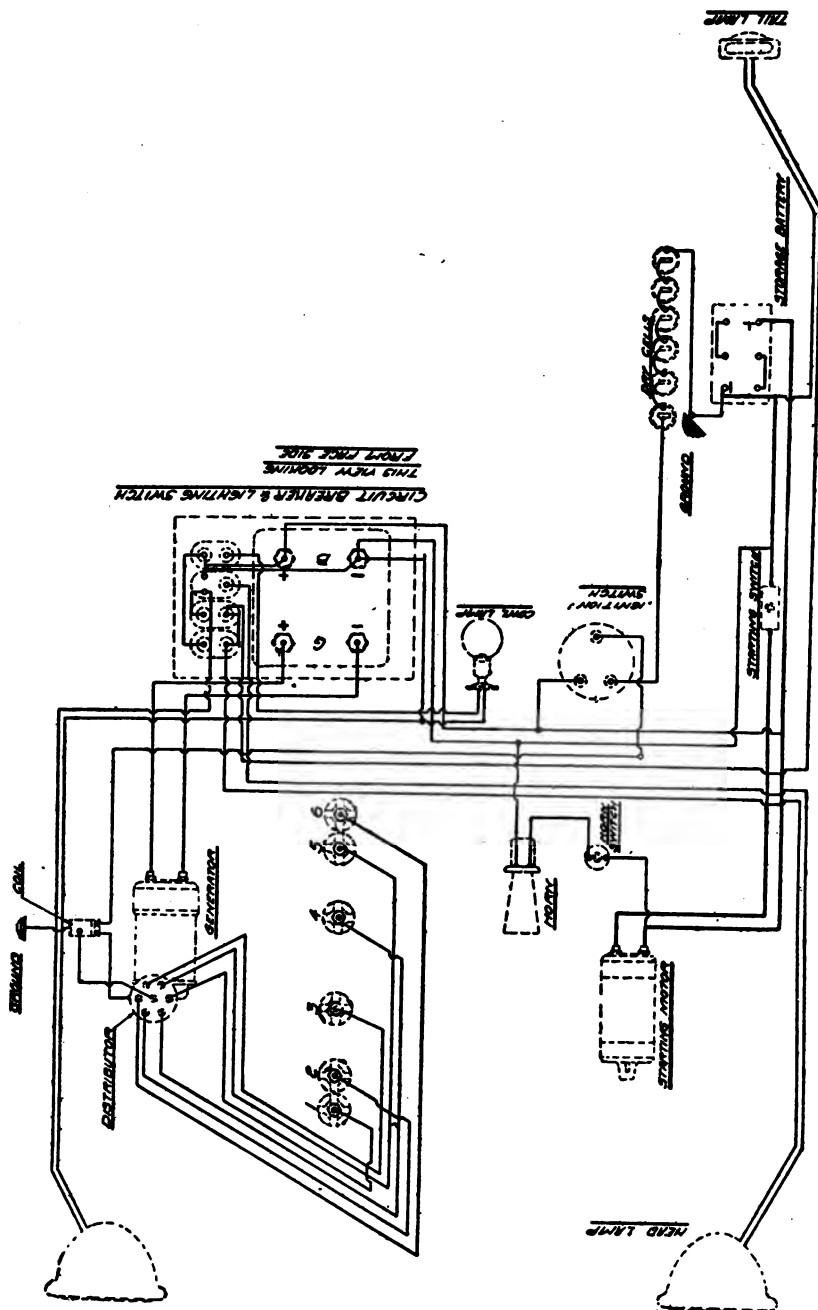
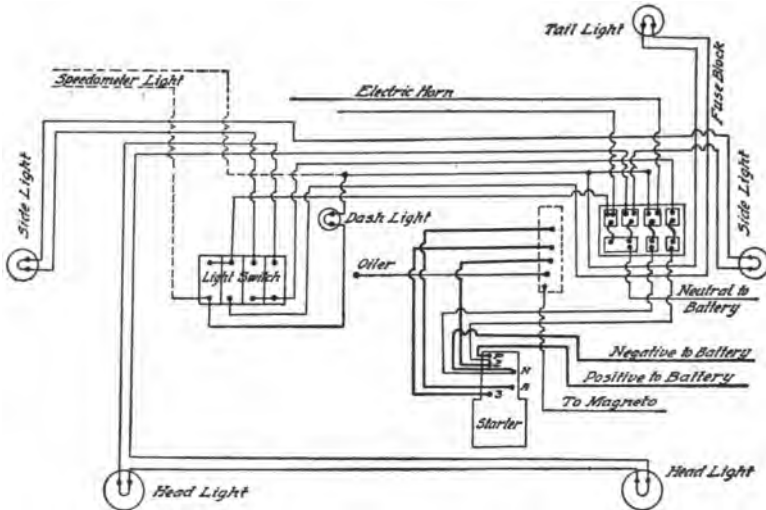

Fig. 295. Wiring Diagram for Leece-Neville System on Haynes Light Six
Fig. 296. Wiring Diagram of Leece-Neville System on White Cars
**Wiring Diagram.** Fig. 295 illustrates the Haynes 1915 installation. While two wires are employed for connecting all the apparatus, it will be noted that the storage battery and the dry-cell battery are grounded by a common ground connection. This is to permit using current from the storage battery for ignition, the corresponding ground to complete the circuit being noted at the ignition coil, close to the distributor. The connections *G* and *B* on the panel board are those of the generator and the battery to the indicating battery cut-out, the connections of three lighting switches being shown just to the right. In Fig. 296 is shown the Leece-Neville installation in White cars.